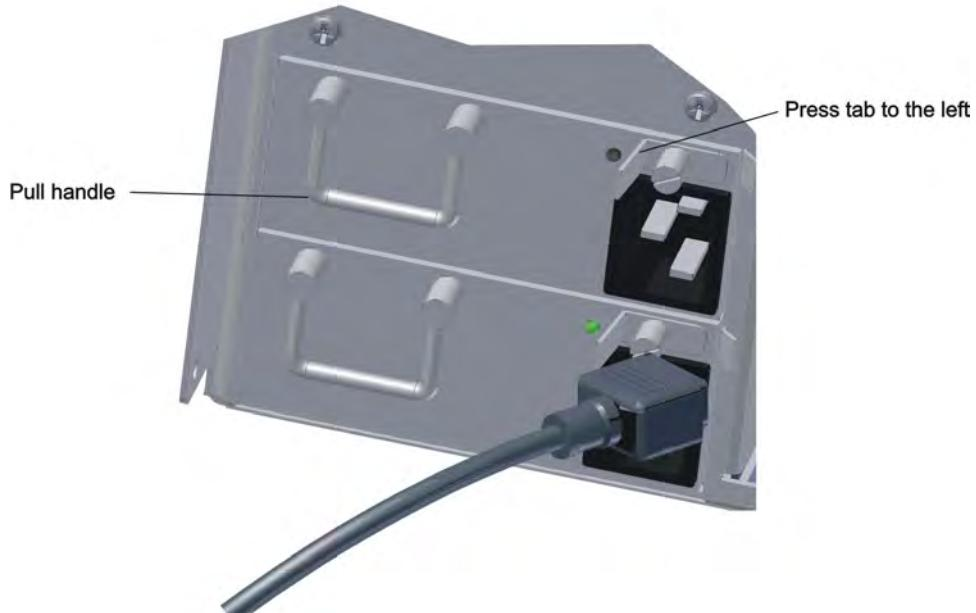
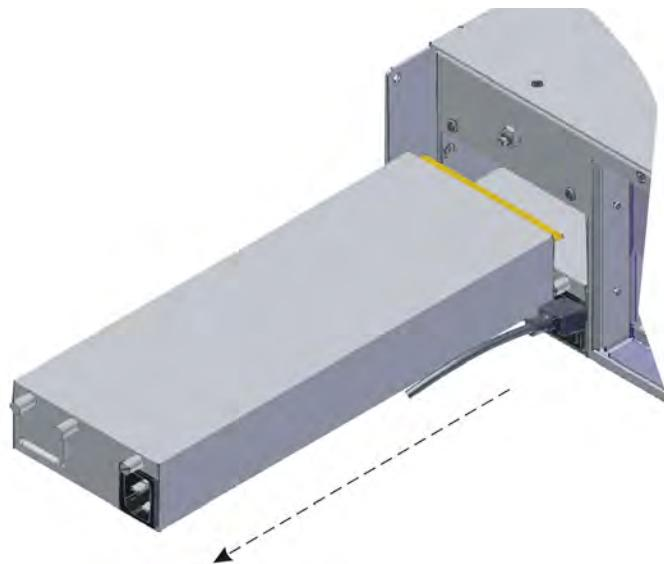

Figure 3-14 Press on Tab and Pull Handle to Remove Failed Power Supply
Figure 3-15 Remove Failed Power Supply
3. Press the failed power supply tab to the left while grasping its handle and pulling the unit out of its slot (see Figure 3-14 and Figure 3-15).